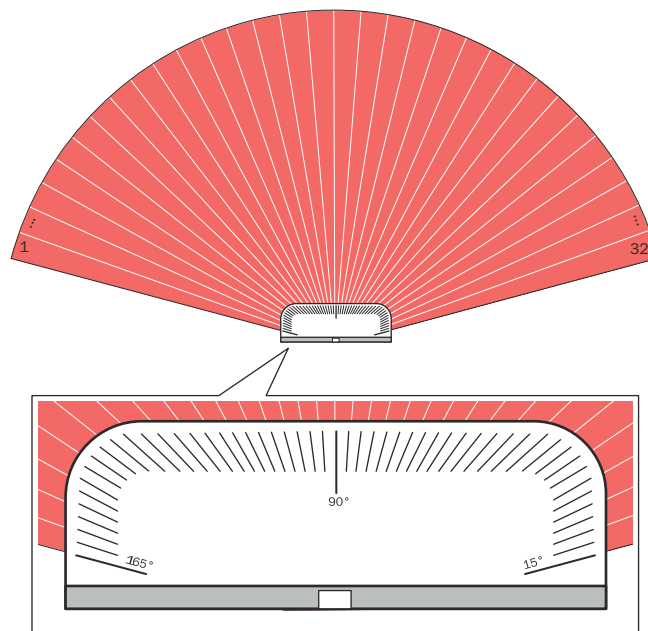

Figure 4: Detection area consisting of 32 segments
The safe multibeam scanner uses 8 geometrically arranged sensor modules to build up a gapless detection area. Each sensor module has its own light source that emits a light pulse. The light pulse of each sensor module is divided into 4 segments, so the detection range of the safe multibeam scanner consists of 32 segments. The 32 segments are numbered from left (1) to right (32) (when viewing the sensor from above, see figure 4, page 13).